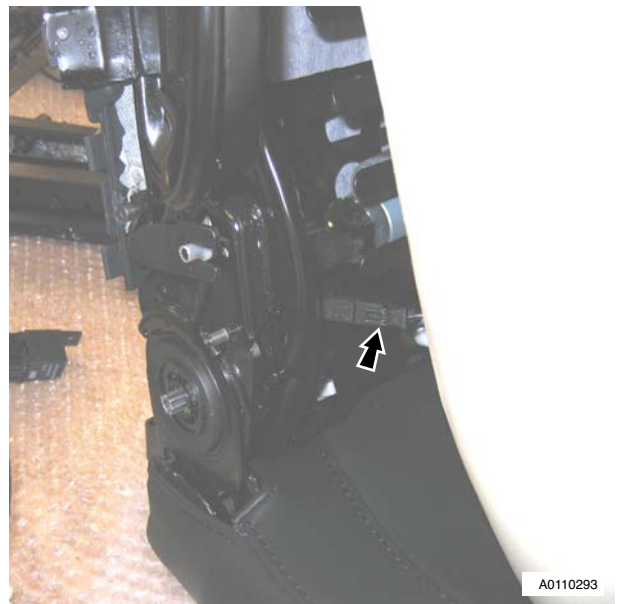

Figure 1
- Disconnect heater multiplug and remove squab foam (see Figure 1).